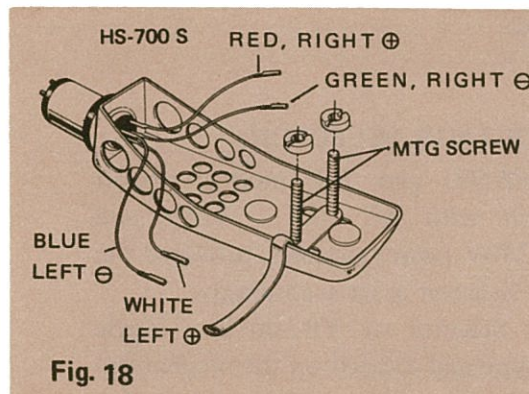

Fig. 18
- a. First, mount cartridge onto head shell before attaching the shell to the tone arm. For cartridge mounting, make sure that cartridge is connected properly to head shell, using the leads of the shell; the red lead to R. Ch. (+) terminal of the cartridge, the green to R. Ch. (-) terminal, the white to L. Ch. (+) terminal and the blue to L. Ch. (-) terminal. Now, place the cartridge properly on the head shell and hold it tight in place by means of the mounting screws. The head shell with the cartridge so mounted will then be plugged into the tone arm and fastened thereto by turning the lock nut. **See Fig. 18.**